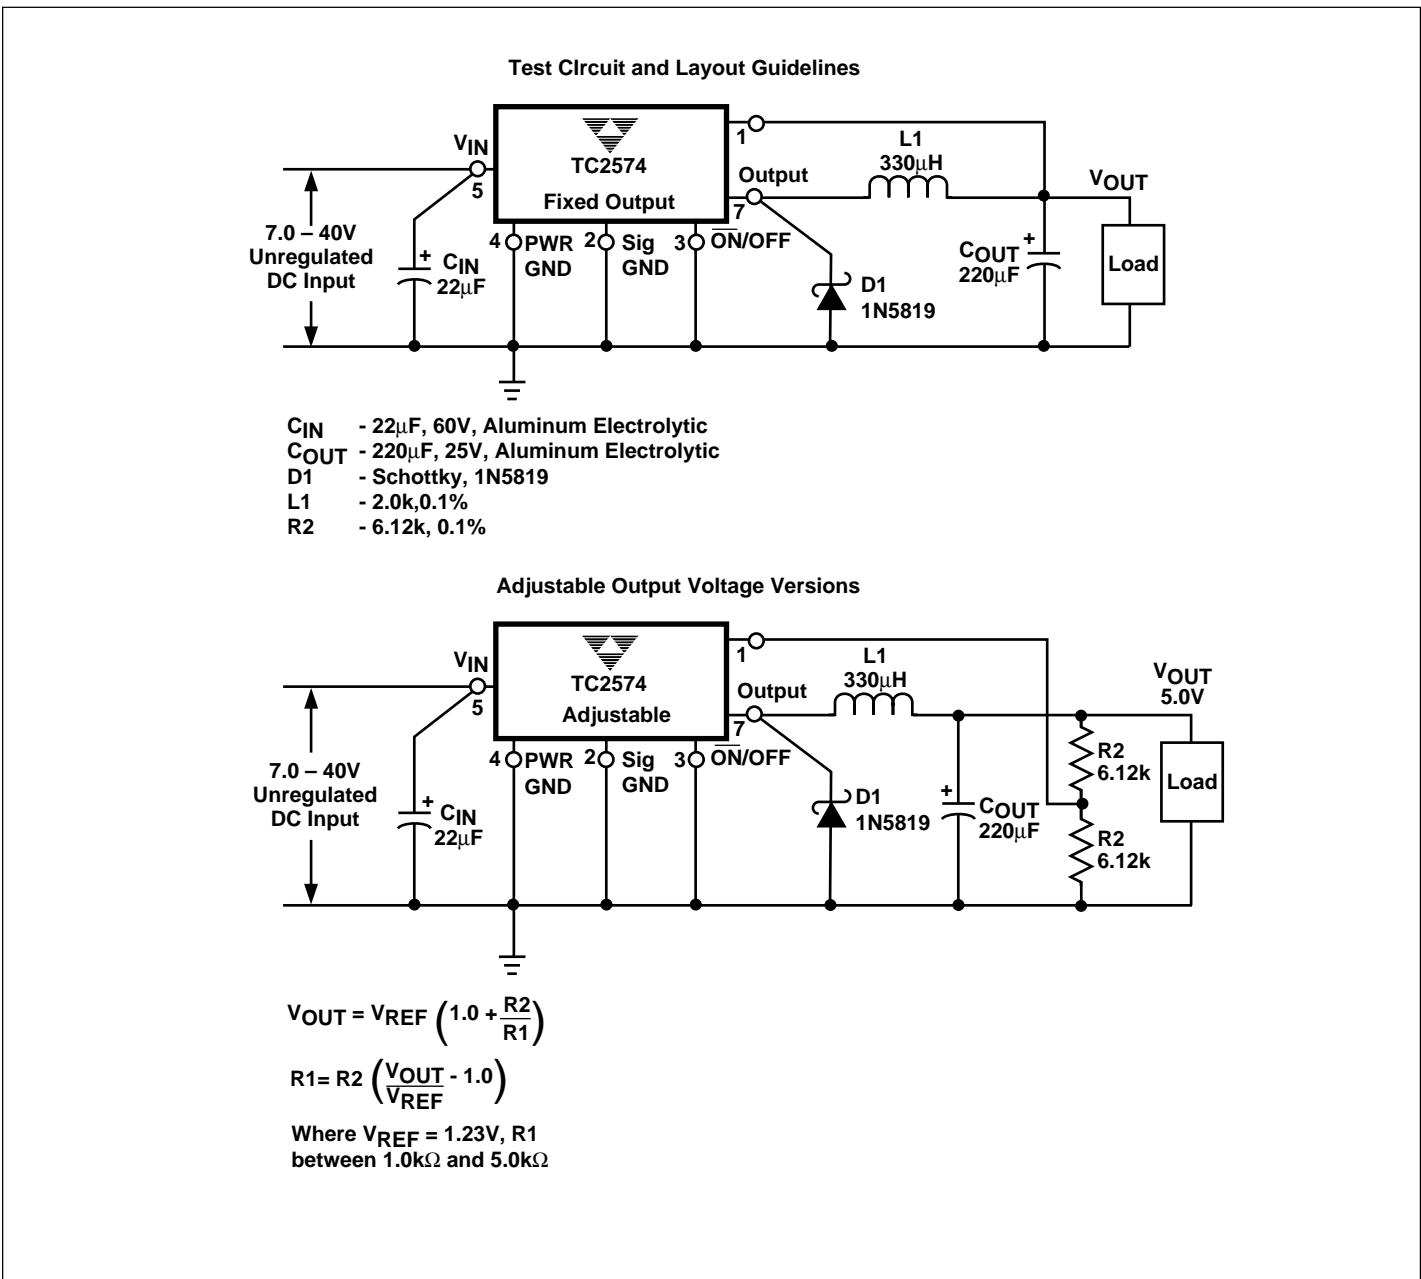

Figure 2. Test Circuit and Layout Guidelines
TC2574-3.3 [( Note 1) Test Circuit Figure 2]
TC2574-5 [( Note 1) Test Circuit Figure 2]
TC2574-12 [( Note 1) Test Circuit Figure 2]
TC2574-Adjustable Version [( Note 1) Test Circuit Figure 2]
**NOTES:** 1. External components such as the catch diode, inductor, input and output capacitors can affect the switching regulator system performance. When the TC2574 is used as shown in the Figure 2 test circuit, the system performance will be as shown in the system parameters section of the Electrical Characteristics.
TC2574-ADJUSTABLE VERSION [(Note 1) Test Circuit Figure 2]
- External components such as the catch diode, inductor, input and output capacitors can affect the switching regulator system performance. When the TC2574 is used as shown in the Figure 2 test circuit, the system performance will be as shown in the system parameters section of the Electrical Characteristics.
As with any switching regulator, the layout of the printed circuit board is very important. Rapidly switching currents associated with wiring inductance, stray capacitance and parasitic inductance of the printed circuit board traces can generate voltage transients which can generate electromagnetic interferences (EMI) and affect the desired operation. As indicated in the Figure 2, to minimize inductance and ground loops, the length of the leads indicated by heavy lines should be kept as short as possible.
<p>1. Programming Output Voltage</p> <p>To select the right programming resistor R1 and R2 value (see Figure 2) use the following formula:</p> $V_{OUT} = V_{REF} \left( 1.0 + \frac{R2}{R1} \right) \text{ where } V_{REF} = 1.23V$ <p>Resistor R1 can be between 1.0kΩ and 5.0kΩ. (For best temperature coefficient and stability with time, use 1% metal film resistors).</p> $R2 = R1 \left( \frac{V_{OUT}}{V_{REF}} - 1.0 \right)$	<p>1. Programming Output Voltage (selecting R1 and R2)</p> <p>Select R1 and R2</p> $V_{OUT} = 1.23 \left( 1.0 + \frac{R2}{R1} \right) \text{ Select } R1 = 1.0k\Omega$ $R2 = R1 \left( \frac{V_{OUT}}{V_{REF}} - 1.0 \right) = 1.0k \left( \frac{10V}{1.23V} - 1.0 \right)$ <p>R1 = 18.51kΩ, choose a 18.7kΩ metal film resistor.</p>